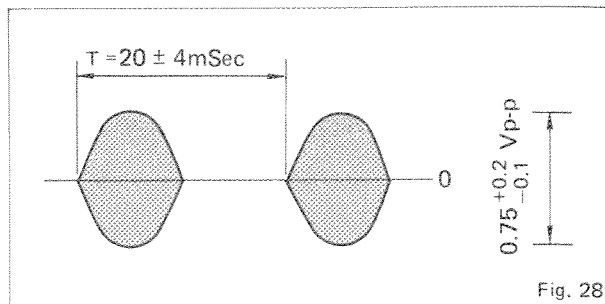

Fig. 28
1. Set WHEEL-VCA (hereinafter referred to as W-VCA) and SPEED switches to ON and F respectively. Further, when MODULATION WHEEL is turned upward, waveforms as given in Figure 28 should be obtained. Likewise, when SPEED switch is set to S, T in Figure 28 should become 20 ± 4 seconds.